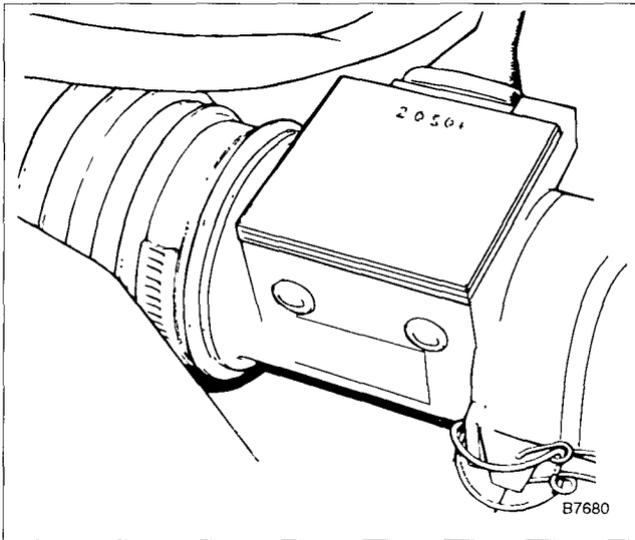

Fig. 27. Air mass meter and spring clip.
3. Release the two spring clip fasteners from the air cleaner housing cover. See Fig. 27. Remove the air mass meter from the duct and cover.